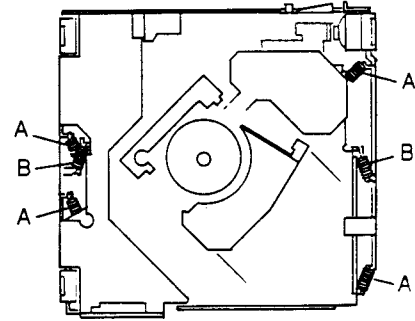

Fig. 7
9. Remove four springs A (silver) and two springs B (black). (Fig. 7)
7. Install four springs A (silver) and two springs B (black). (Fig. 7)